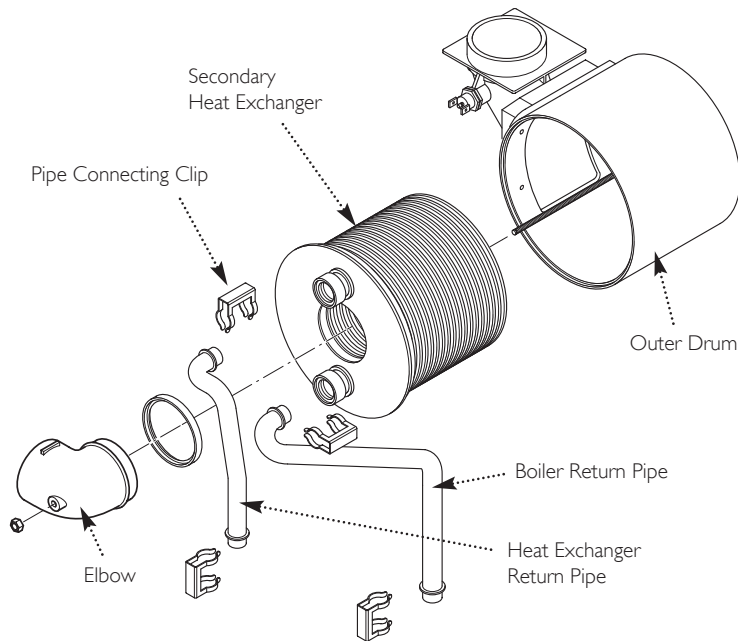

Fig. 87
14.23 Secondary Heat Exchanger (Fig. 87)